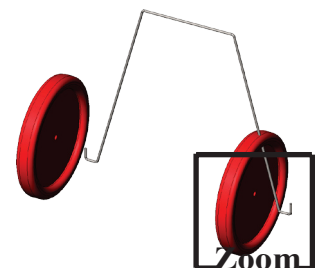

Fig. 3
Step 1. Zoom in around **wheel hole and end of wire**, **Fig. 3**. To **zoom**, hold down **Shift** key and drag with middle mouse button (wheel). To **pan**, hold down **Ctrl** key and drag with middle mouse button (wheel).